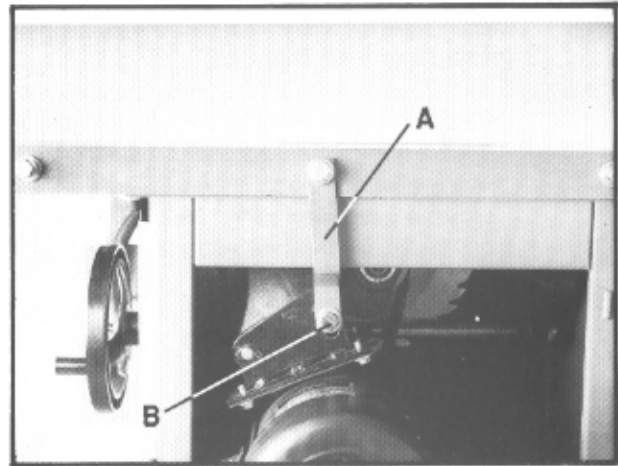

Fig. 1
1. Remove shipping bracket (A, Fig. 1) holding motor to table.
2. After the shipping bracket has been removed, install the bolt back into the motor support bracket (B, Fig. 1). The other bolt is used to hold the extension wing in place.